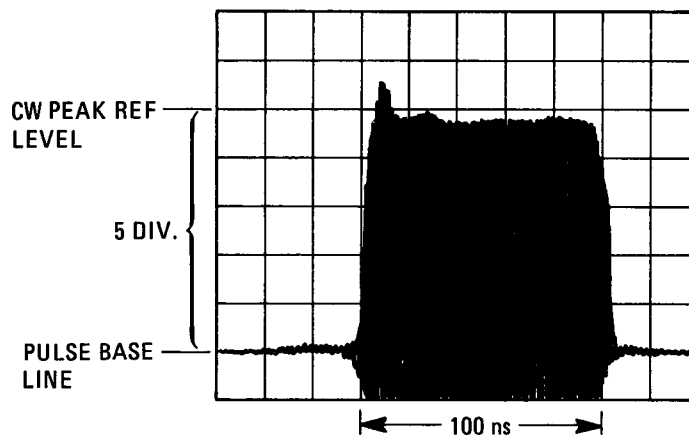

Figure 4-7. Pulse Peak Level Accuracy Measurement
18. Switch back to PULSE NORM. The display should be as shown in Figure 4-7. Measure the difference between the CW peak reference level and the average peak pulse level excluding any over/undershoot. Record the peak level accuracy below.